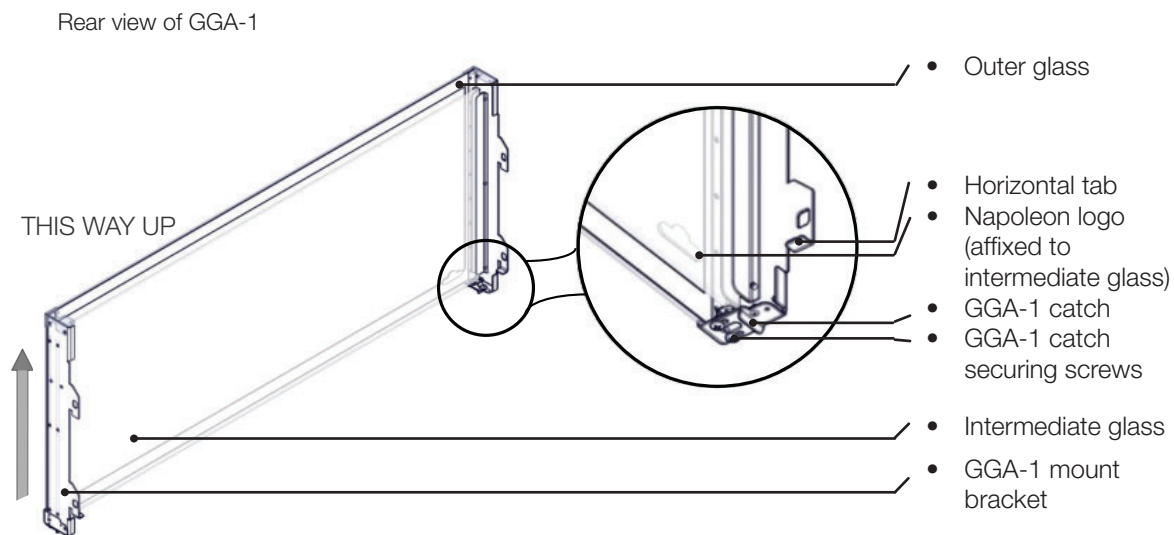

Fig. 1
2. Ensure to handle the GGA-1 as shown (**Fig. 1**) as the floating intermediate glass might fall out of the assembly if handled incorrectly.